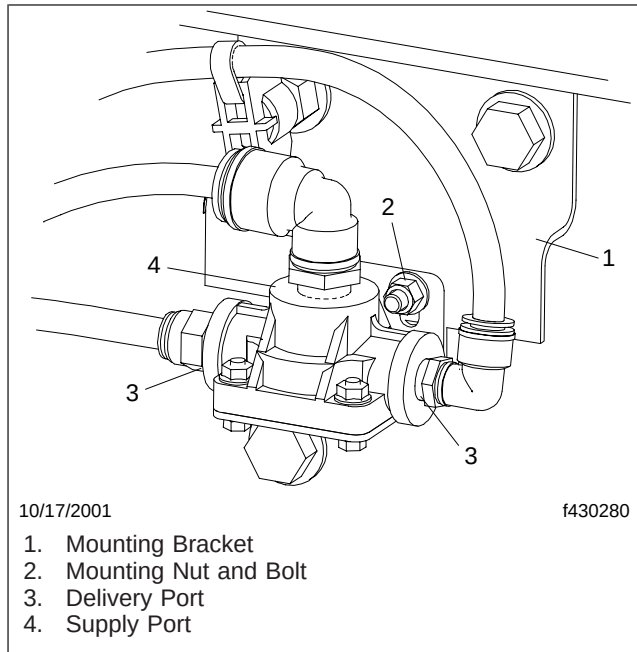

Fig. 1, Quick Release Valve Mounting (QR-1 valve shown)
4. Remove the mounting bolts and the valve. See Fig. 1.